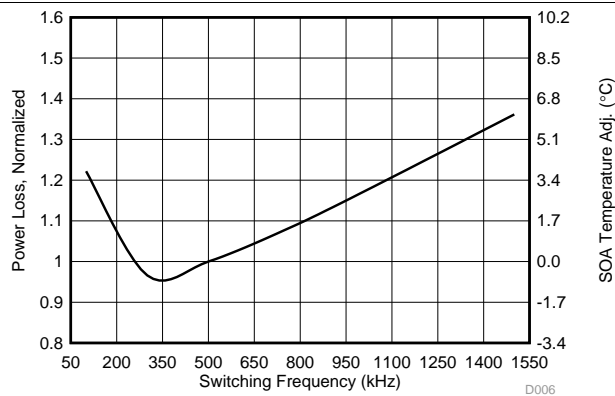

Figure 5. Normalized Power Loss vs Switching Frequency
- Normalized Power Loss for switching frequency ≈ 1.08 (Figure 5)
- SOA adjustment for switching frequency $\approx 1.32^\circ\text{C}$ (Figure 5)